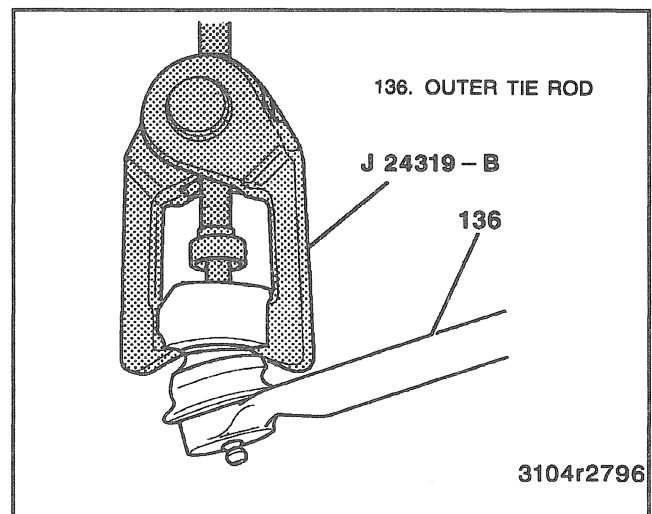

Figure 8—Disconnecting the Tie Rod
6. Separate the outer tie rod ball stud from the steering knuckle using J 24319-B (Figure 8).